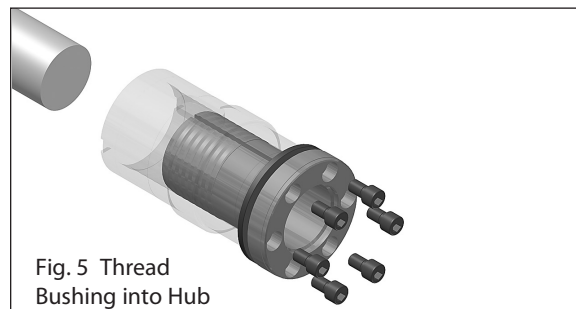

Fig. 5 Thread Bushing into Hub
Step 5 – Carefully thread the Taper-Grip® bushing into the hub of the speed reducer or gearmotor until the thrust collar solidly engages the unit hub surface and the bushing flange (see Fig. 5). **Caution: Do not cross-thread. Bushing should thread easily into hub.**